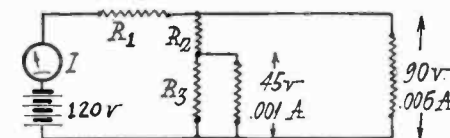

Fig. 3
4. Determine the required values of the resistors R_1 , R_2 and R_3 in the network of Fig. 3 in order that the maximum current drain on the battery is limited to .01 amp., and with the other conditions as shown.